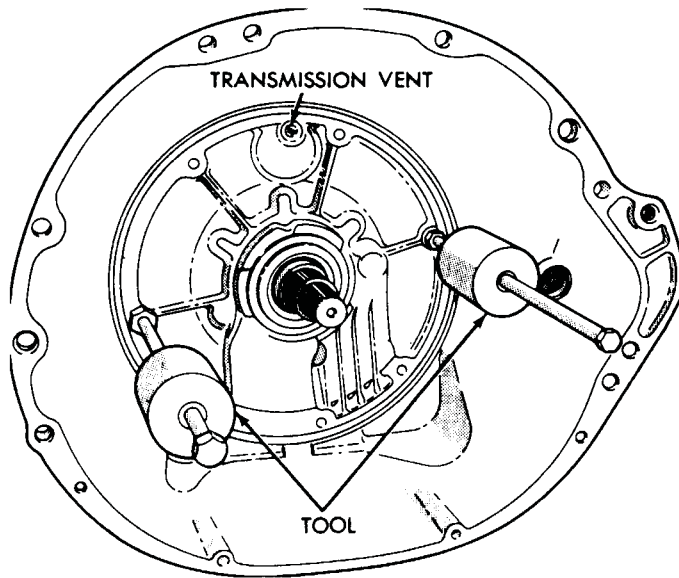

Fig. 6—Remove Oil Pump
(1) Tighten front band adjusting screw until band is tight on front clutch retainer. This prevents clutch retainer from coming out with pump which might cause unnecessary damage to the clutches.
(2) Remove oil pump housing retaining bolts.
(3) Attach Tool C-3752 to pump housing flange, (Fig. 6), in threaded holes in the flange.
(4) Bump outward evenly with the two "knocker weights" to withdraw pump and reaction shaft support assembly from the case.